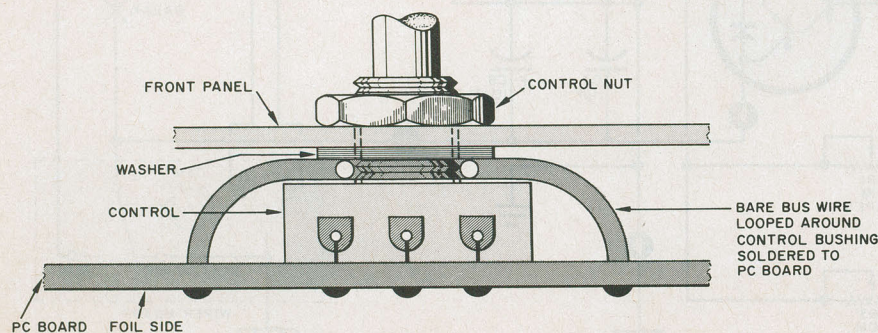

Fig. 4. How potentiometers are wired to board to provide support when mounted in case.
**Construction.** While there is nothing critical about the layout, construction is greatly facilitated if the pc board shown in Fig. 3 is used. The pc board is held in place by controls  $R1$  and  $R3$  which are fastened to the front panel of a small plastic case. If  $S1$  is attached to  $R1$ , it mounts through a suitable hole in the pc board. The controls are mounted to the board with short wire extensions from the terminals to the pertinent pc pads and with the bus wire straps shown in Fig. 4. The part specified for  $R1$  has a push-pull switch. Using this type of switch allows turning the Auto-Wiper on and off without changing the setting of  $R1$ .